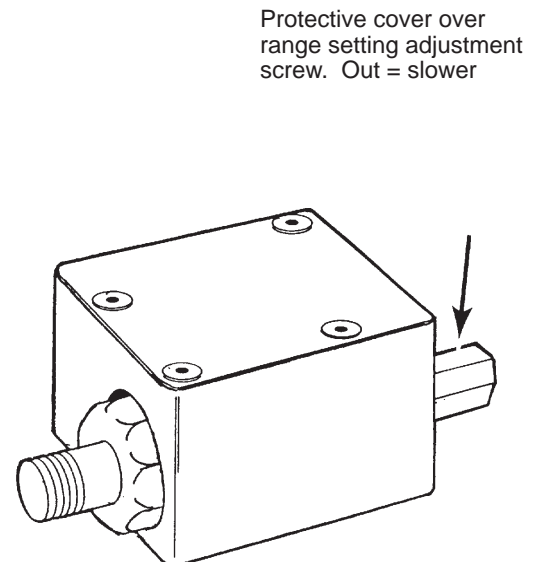

Fig. 2-17 – Optional Pressure Switch
6. Figure 2-17 shows the pressure switch. On the pressure switch, remove the cap from the range setting adjustment screw. Turn the screw out as far as possible. This will allow the pressure switch to open at the lowest pressure.